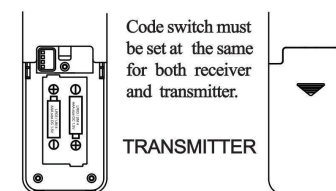
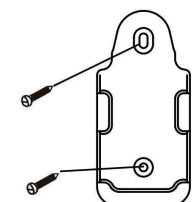

Fig. 3
Fig. 4
5. To change the batteries is to open the battery housing cover by sliding out the cover downward to the arrow shown direction while pressing down the cover with thumb. (Fig. 3) Holder for transmitter: if desired, install onto the wall with screws. (Fig. 4)